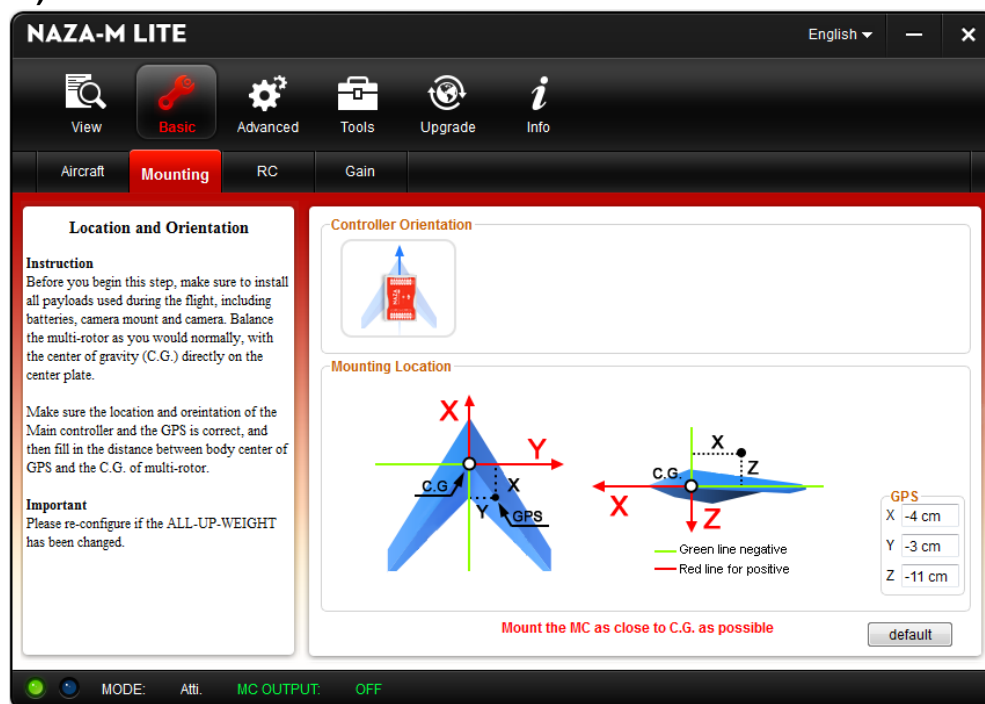

Figure 5: “Mounting” page
- The GPS Location settings in the “**Mounting**” section describes the location of the GPS module relative to the Center of Gravity (CG) of the F450 quadcopter (see Figure 5).